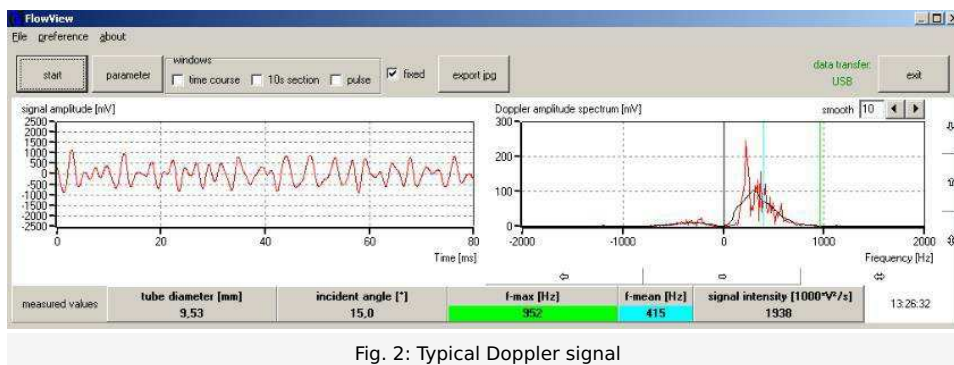

Fig. 2: Typical Doppler signal
- Connect the sonograph to the computer and start up the "PHYWE measure Ultra Flow" software. The software will display the screen shown in figure 2. Do not concern about parameter window, in this set-up we will only work on qualitative results and interpret the results in terms of frequency Doppler shifts. For continuous flow measurements display also the time course window and for the pulsating mode display time course and 10 s section windows.
- Select a vessel on the dummy, apply some couple gel and measure with the Doppler probe a typical signal. Adjust the amplification until sufficient signal amplitude is displayed in the software (Fig. 2) and on the amplitude level LEDs. Adjust also audio volume.